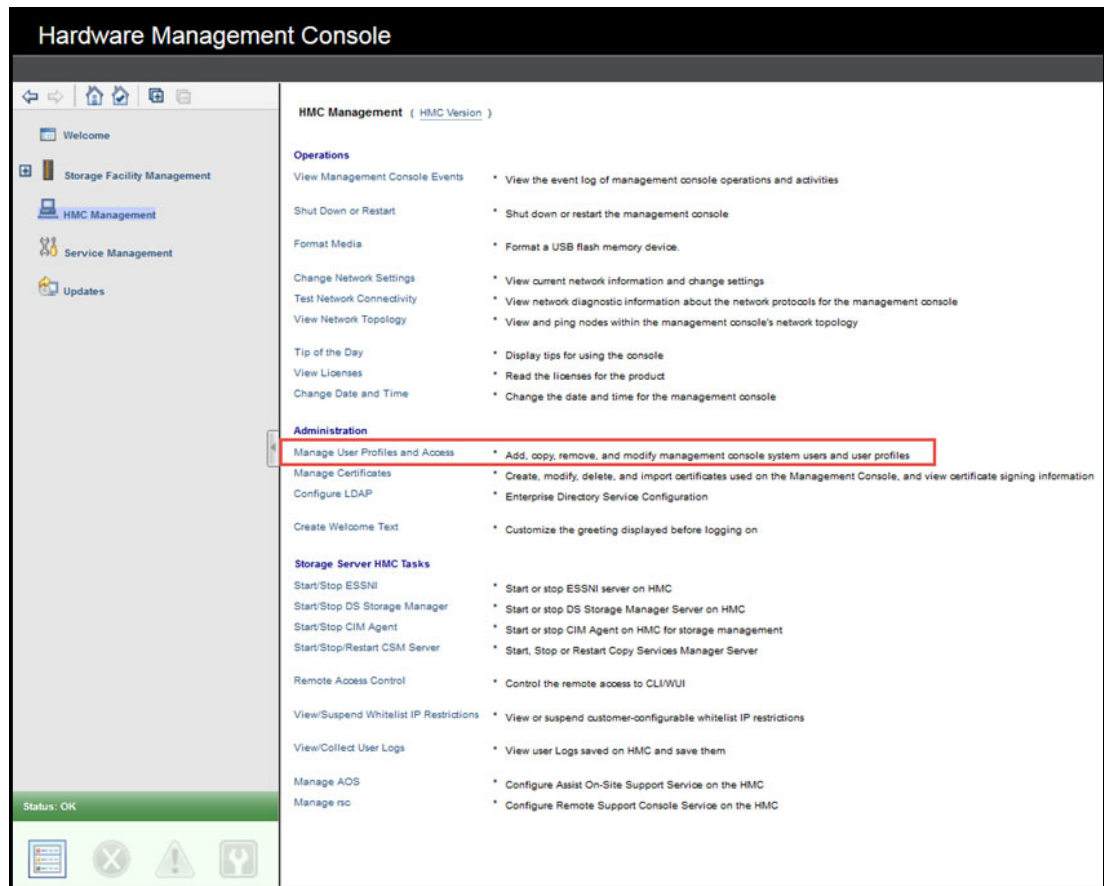

Figure 8-14 Manage User Profiles and Access
2. in the HMC Management window, select **Manage User Profiles and Access**, as shown in Figure 8-14.